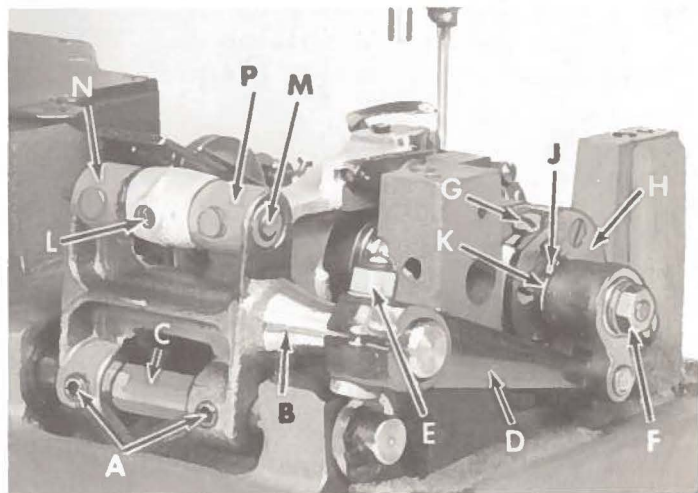

Fig. 13
Should it be necessary to move the feed dog to the left or right, loosen screws (A, Fig. 13) which hold the feed rocker (B) onto the feed rocker shaft (C), and move feed rocker to desired position and retighten screws. Make sure the feed rocker arm (D) does not bind after making this adjustment.
Should it be necessary to move the feed dog forward or backward, loosen nut (E, Fig. 13) which clamps the feed rocker arm to the feed rocker and move the feed rocker forward or backward as needed and re-tighten nut.
Set the stitch to required length. This is accomplished by loosening the locknut (F, Fig. 13) 1/2 turn (it has a left hand thread) on the end of the stitch regulating stud and turning the stitch adjusting screw (G) located under the left end of the cloth plate, in the head of the main shaft (H), which is marked with "L" and "S". Turning the screw clockwise shortens the stitch (moves stitch regulating stud toward the "S") and turning it in a counterclockwise direction lengthens the stitch (moves stitch regulating stud toward the "L"). Retighten the locknut securely. To prevent destructive damage to the feed drive bearing, the Key screw (J) must engage the "U" shaped key slot in the ferrule (K).
The feed rocker assembly may require lubrication or repair after years of operation. This can be accomplished as follows: Loosen nuts (E, F, Fig. 13) and remove nut (F). Remove feed rocker arm (D) from machine by rocking slightly. Loosen screws (A) and remove stop collar on right end of shaft (C). The shaft can now be withdrawn. Loosen Allen screw (L) and remove shaft (M). Now, repack bearings.
When packing bearings the parts must be clean and grease should be applied directly from the tube to avoid contamination. Tube of grease can be supplied under the part number 28604 P. Greased bearings are located at (N, P, Fig. 13). If grease sealed bearings are replaced they should be pressed in flush with the casting. To assemble, reverse the procedure described in the previous paragraph. Start tapered end of shafts first, twisting slightly when entering the grease seals to prevent damage. Check for proper adjustment of feed dog as described under "Setting the Feed Dog". Also check to see that there is no binding at any point.